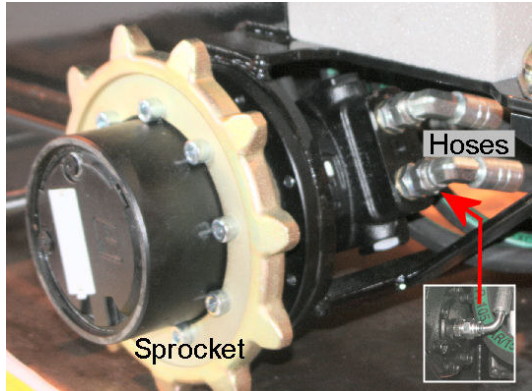

Fig 5-10 Drive motor sprocket & hoses
3. Disconnect the three hoses from the motor, labelling each as you go (Fig 5-10). Plug the hoses and take care to avoid oil spillage as this can be an environmental hazard.
4. Remove the sprocket from the motor (8 socket head screws) (Fig 5-10).